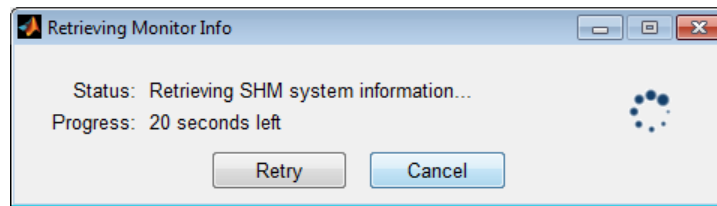
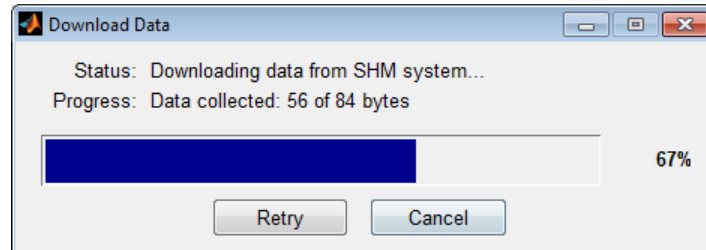

Figure 4.3: 'Retrieving Monitor Info' dialog box.
Figure 5.5: 'Initializing Monitor Logging' dialog box.
- ✓ **Step 4.6** Click **Commands** ▸ **Get Monitor Info...** from the main menubar. This can also be achieved by clicking the  button from the toolbar or by the keyboard combination **[Ctrl] + [I]**. A 'Retrieving Monitor Info' dialog box will appear, as shown in Figure 4.3, displaying the status of the monitor info request and the time remaining to receive a verification.
- ✓ **Step 5.10** Click Commands > Download... from the main menu bar. This can also be achieved by clicking the  button from the toolbar. A dialog box should display which indicates CMAS is sending the SHM system a monitor info request similar to Figure 4.3 on page 14. If the request is sent successfully, the 'Download Data' dialog box should automatically appear, as shown in Figure 5.5 on the next page.